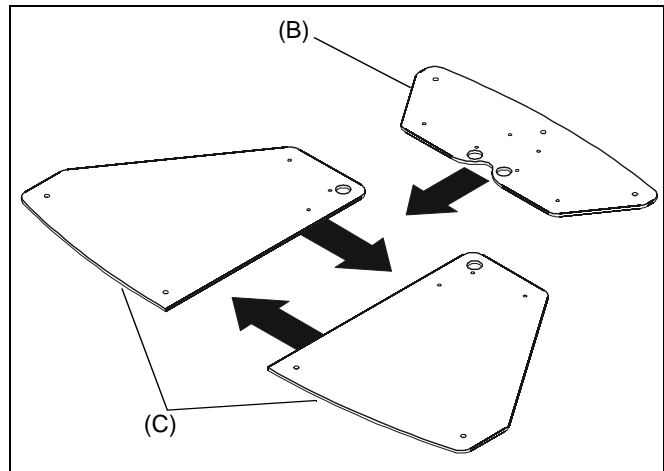

Figure 3
2. Gather stand base pieces B and C (2) as shown in Figure 3 and push them together until the edges meet.